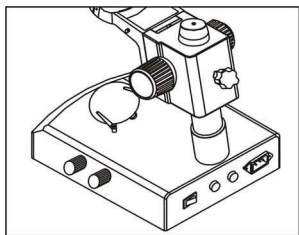

Fig. 1
- 1) Press the glass stage on the sunken place then the other side of the glass stage will be lifted (Fig. 1)